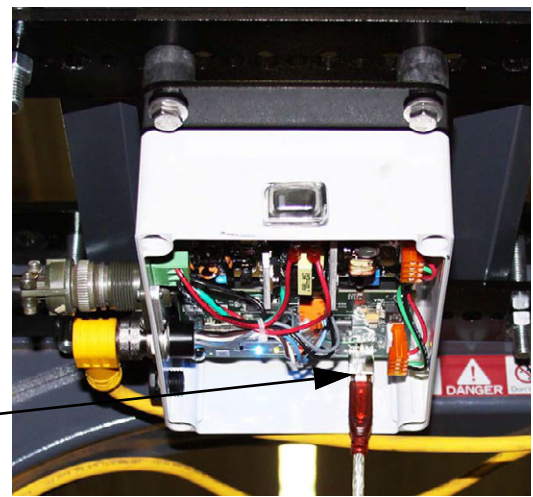

Figure 4-41. Connect USB to Power/Communication Box
7. Turn on the power/communication box (See Figure 4-41 on page 37). Wait for computer to recognize the new hardware.